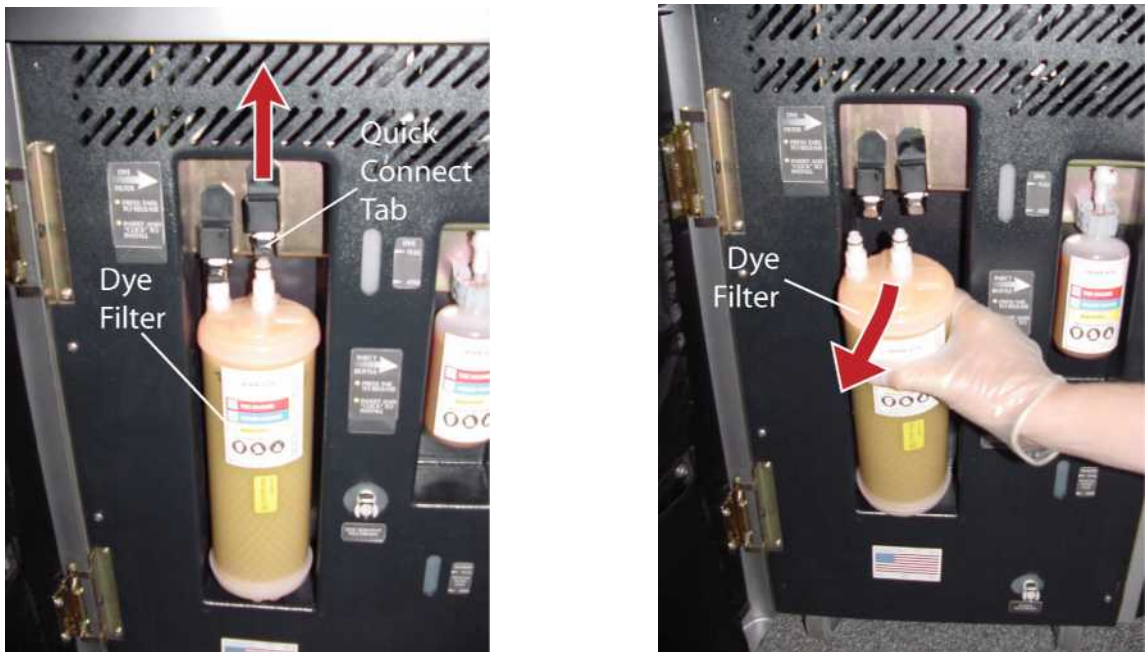

Figure 6A–Disconnecting and Removing Dye Filter
3. Disconnect the dye filter by squeezing the tab of the quick-connect, and then sliding the fitting up toward the top of the laser. See left side of **Figure 6A**. Repeat for the other dye filter connector.
4. Once the dye filter connectors are disengaged from the fittings, slide the dye filter down and away from the laser, as shown in right side of **Figure 6A**.